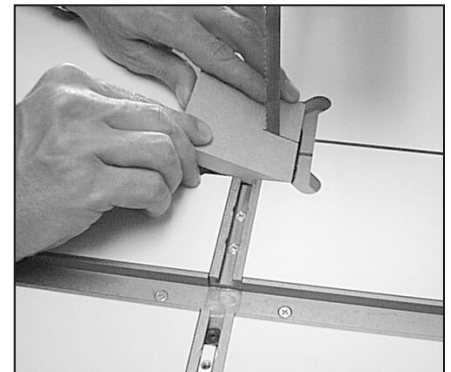

Figure 6: With the saw running slide the insert into position. This will leave you with the appropriate kerf.
8. To install the blade insert, turn on the bandsaw and feed the inset into the recess until it drops in place, see Fig. 6.